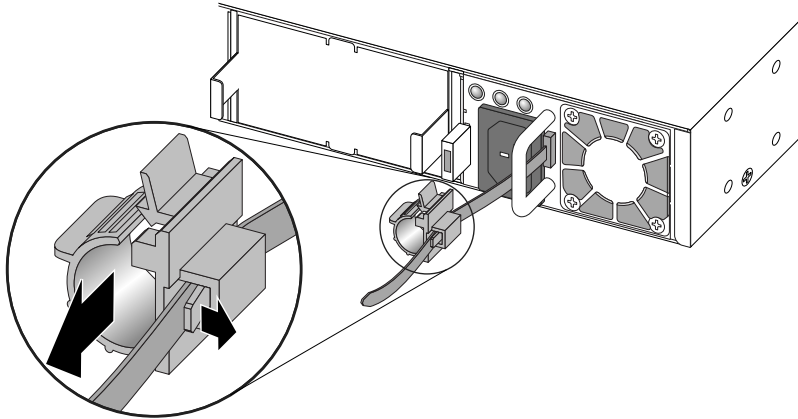

Figure 327: Moving the Power Cord Retainer on the 750 W AC Power Supply
- 1 If necessary, slide the plastic cord retainer farther away from the back of the power supply (see Figure 327: Moving the Power Cord Retainer on the 750 W AC Power Supply on page 352).